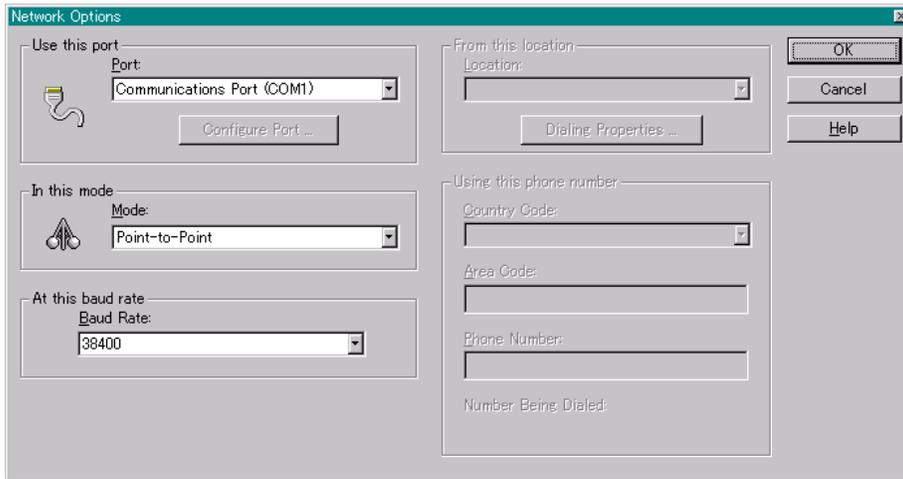

Figure 3-3. Setup Servlink Communication
2. Check for correct wiring in accordance with the plant wiring diagram, Figures 3-3 and 3-4.